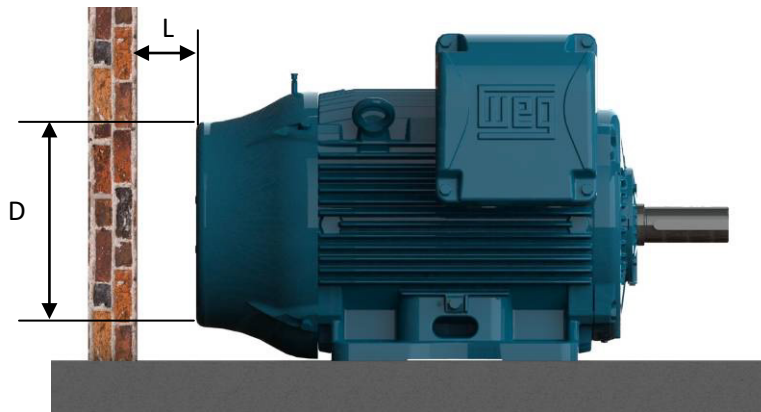

Figure 7.1- Minimum clearance to the wall
- Measure the winding insulation resistance, making sure it complies with the specified values in item 5.4.
- Check if the motor wiring connections, including grounding and auxiliary equipment connection, have been carried out properly and are in accordance with the recommendations in item 6.9.
- Check the bearings operating conditions. If the motors are stored and/or installed for more than two years without running, it is recommended to change the bearings or to remove, wash, inspect and relubricate them before the motor is started. If the motor is stored and/or installed according to the recommendations described in item 5.3, lubricate the bearings as described in item 8.2. For the bearing condition evaluation, it is recommended to use of the vibration analysis techniques: Envelope Analysis or Demodulation Analysis.
- Ensure that the air inlet and outlet opening are not blocked. The minimum clearance to the nearest wall (L) should be at least $\frac{1}{4}$ of the fan cover diameter (D), see Figure 7.1. The intake air temperature must be at ambient temperature.